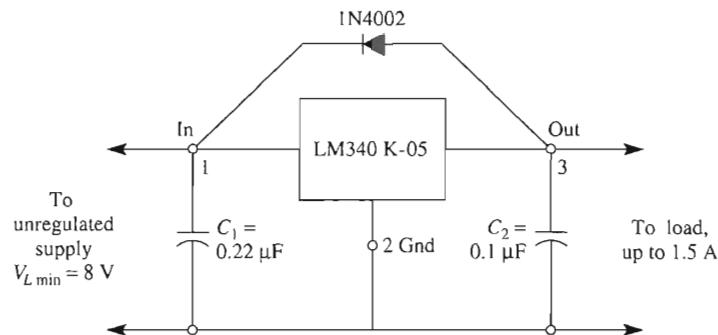

FIGURE 16-11 A TTL digital logic regulated power supply (5 V at 1 A.)
A $+5 \text{ V}$ digital power supply for TTL logic or certain microprocessors is shown in Fig. 16-11. The K package of the LM340-05 is a steel TO-3 case and should be heat sunked
$V_{L\text{ min}}$ for the unregulated FWB supply should allow 3 V of headroom and should be greater than $(3 + 5)\text{ V} = 8\text{ V}$ (see Fig. 16-11). Choose a 12.6-V transformer ($1.8 \times 1\text{ A}$) at a 2-A current rating. From Sections 16-2 and 16-3: (1) $V_{dc\text{ NL}} = 12.6\text{ V} \times 1.4 = 17.8\text{ V}$. (2) Assume that $R_o = 6\text{ }\Omega$. If $I_{L\text{ FL}} = 1\text{ A}$, then $V_{dc\text{ FL}} = 17.8\text{ V} - 6\text{ }\Omega(1\text{ A}) = 11.8\text{ V}$. (3) Pick a 1000- μF filter capacitor to give a $\Delta V_o = 5\text{ V}$. Thus, $V_{L\text{ min}}$ should be at least $11.8\text{ V} - (5\text{ V}/2) = 9.3\text{ V}$, leaving some margin. Pick the capacitor WVDC $\geq 25\text{ V}$ and diodes with a 25-V PIV rating. The diode current rating should exceed 1 A.